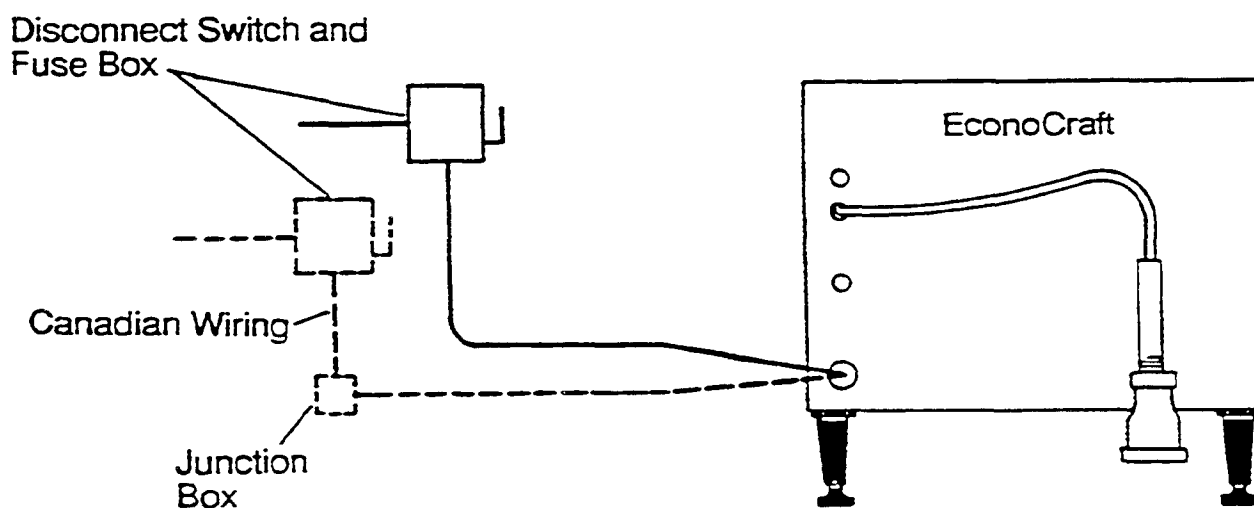

Figure 2-8. Electrical Layout
Furnishing and installing the electrical power lines, switches, fuse boxes, connectors and their accessories is the responsibility of the owner and/or installer. Figure 2-8 illustrates an electrical layout recommended by Cleveland Range. When installing the electrical power lines and accessories, observe the following instructions.
3. Refer to electrical schematic, Figure 2-8, and Table 2-3. Minimum Wire Requirements. Verify that the proper size fuses or breakers are installed. Check that the POWER switch on the EconoCraft is in the OFF position by pressing the left side of the switch. Turn on electric power to the EconoCraft at the fused disconnect Switch. 4. Open the steamer door. Check for proper installation of the drain screen and pan rack.